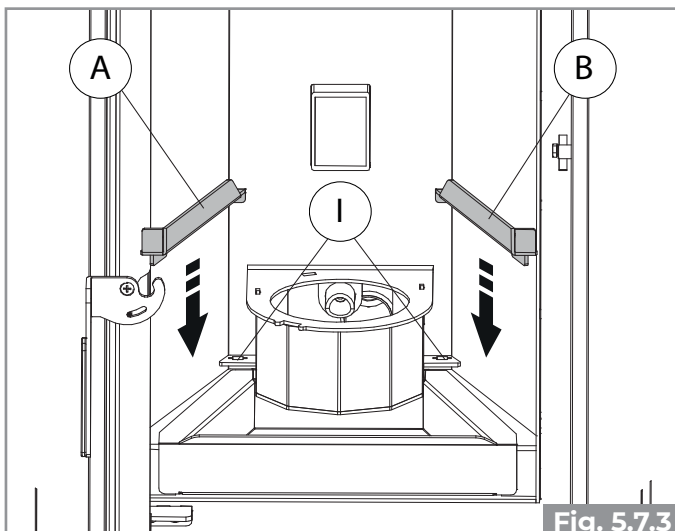
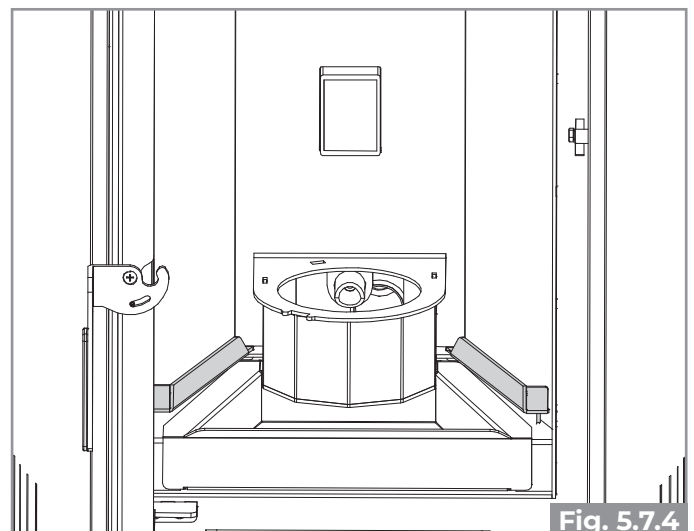

Fig. 5.7.3
Fig. 5.7.4
- Insert the two supports A and B ensuring that the two blades present in the rear part of the supports are inserted into the suitable slots I inside the combustion chamber (Fig. 5.7.3 - Fig. 5.7.4);